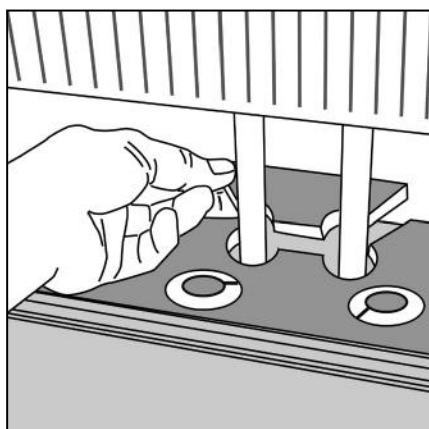

Figure 21 Radiator pipes
- > Leave this in place until the glue has hardened (Fig 21 overleaf).